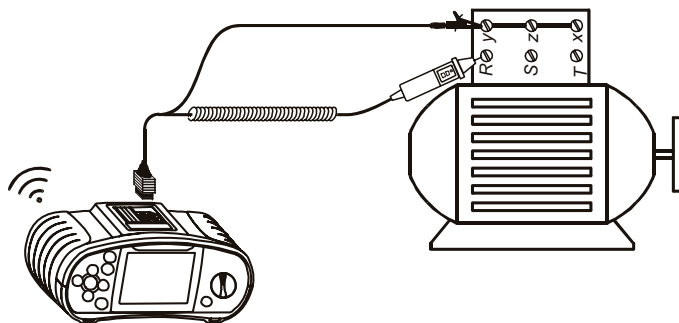

Figure 5.11: Connection of tip commander
1. Short test leads first as shown in figure 5.11.